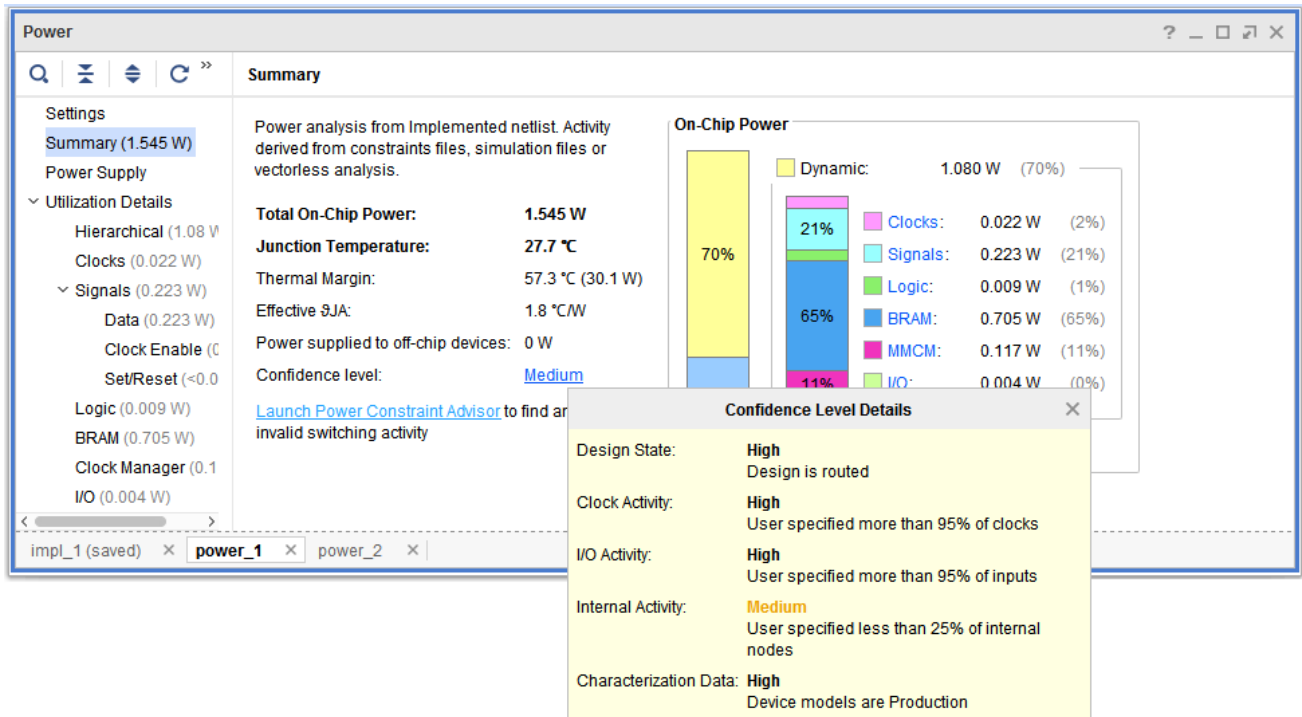

Figure 39: Confidence Level for Vectorless Power Analysis (power_1)
- In the **Summary** view of the **power_1** report (the report generated by the vectorless analysis), click on the **Confidence level (High)** in Figure 39).